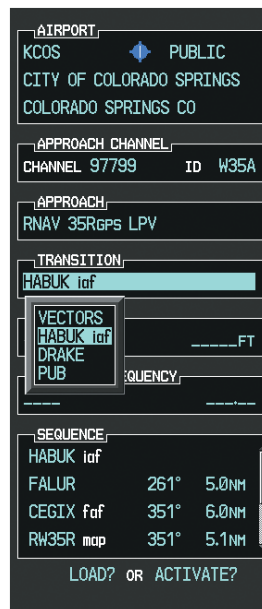

Figure 5-122 List of Available Transitions
- e) Press the **ENT** Key. A list of available transitions for the selected approach is displayed as in Figure 5-122.